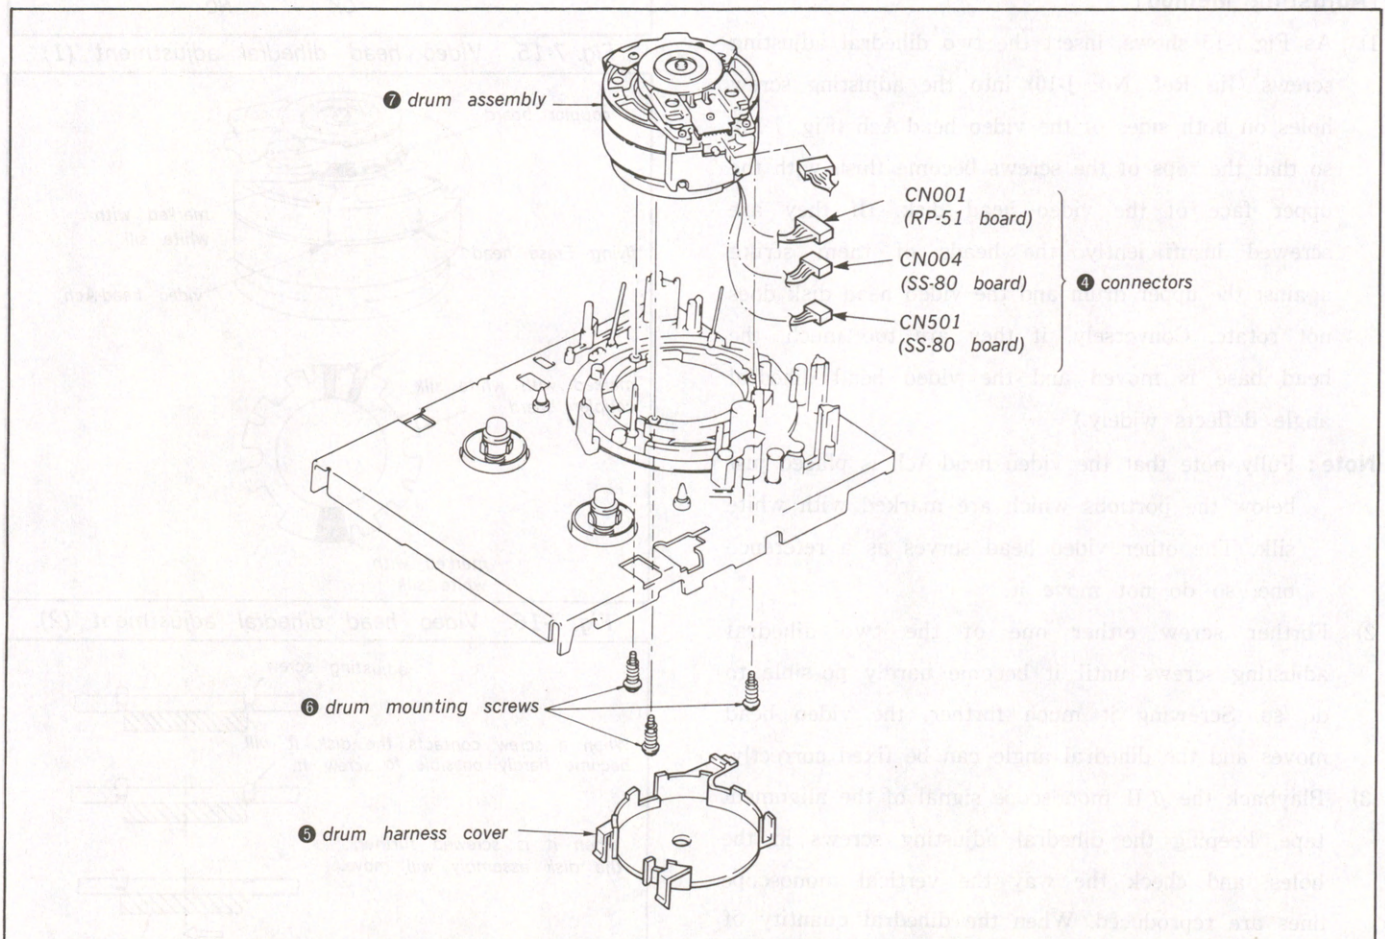

Fig. 7-19. Detaching the drum assembly.
- 4) Take off the four connectors **4** (Fig. 7-19).